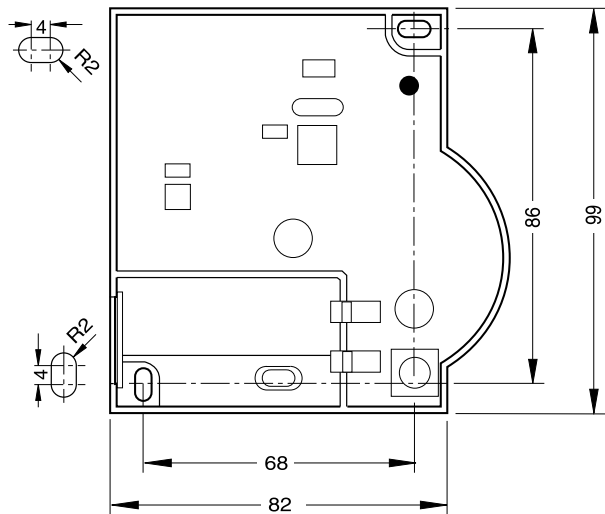

Fig. 11: Drilling scheme (measurements in mm)
- ▶ Mark the drill holes according to the drilling template (see Fig. 11).